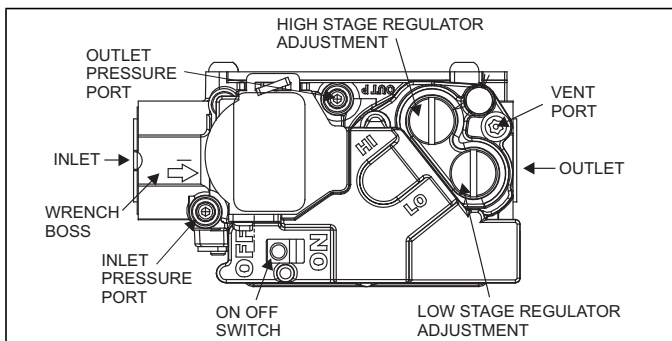

FIGURE 33: Gas Valve
Inlet and manifold gas pressure may be measured by connecting the "U" tube manometer to the gas valve with a piece of tubing. Follow the appropriate section in the instructions below. Refer to Figure 33 for the locations of the pressure ports on the gas valve.
Connect the positive side of the manometer to the OUT P Tap on the gas valve. Do not connect any tubing to the negative side of the manometer, as it will reference atmospheric pressure. Refer to Figures 33 and 34 for connection details.
This gas valve has separate regulator adjustment screws for high fire and low fire, as shown in Figure 33. The procedure below is used to adjust either the high fire manifold pressure or the low fire manifold pressure.
1. Refer to Figure 33 for location of pressure regulator adjustment cap and adjustment screws on main gas valve.
3. Place jumper wire from W1 to W2 to R on the furnace control board for the furnace to operate HIGH fire. Once correct manifold pressure is set (HI), remove jumper from W2 for the furnace to operate on low fire. Set the manifold pressure (LO) to correct manifold pressure.